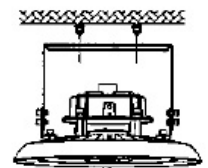
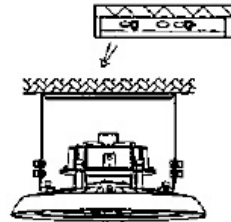

Figure 5
Figure 6
3. Align the bracket hole with screw hole (figure 5), and push the fixture to one side (figure 6) and secure it.